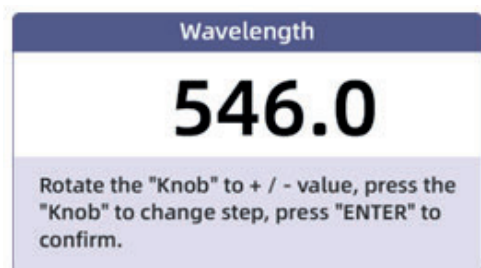

Fig. 6-10 Set the measurement wavelength
1. Press the knob to pop up the setting interface (Figure 6-10), rotate the knob to change the measurement wavelength, press **"ENTER"** to confirm;